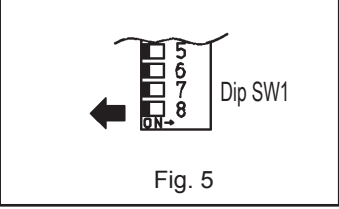

Fig. 5
- Move switch 8 of Dip SW1 to OFF. Figure 5.